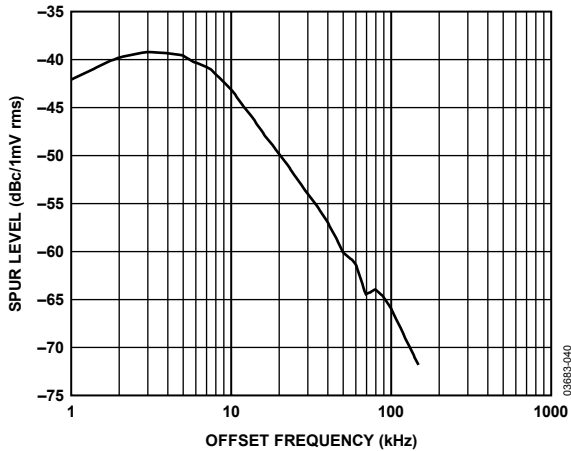
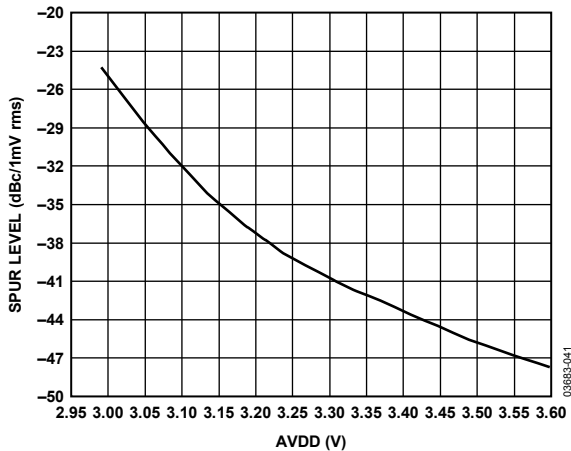

Figure 40. Output Spurious vs. Power Supply Ripple (AIN = 199 MHz)
Figure 41. Output Spurious vs. Power Supply Ripple (AIN = 199 MHz)
The AD6650 is susceptible to low frequency power supply interference as shown in Figure 40. This low frequency energy is translated into spurious tones in the output signal. Analog power supply ripple couples into the LO through the VCO. This can be observed from the ripple frequency vs. sideband spur level plot (see Figure 40). Note that this plot has the spur level referenced to 1 mV rms supply ripple and is referred to the LO. Thus, this plot shows a transfer function rather than an absolute value. The spurious level can be extrapolated to any supply ripple level from this data using Equation 22.
*Spur\_Lev1mV* is the 1 mV referred level from Figure 40 and Figure 41.
An additional parameter that strongly impacts the PSRR is the sensitivity to the AVDD voltage level. A plot of spur level versus AVDD is shown below in Figure 41. Note that this plot also has the spur level referenced to 1mV rms supply ripple and is referred to the LO. Thus, this plot shows a transfer function rather than an absolute value. The spurious level can be extrapolated to any supply ripple level from this plot using Equation 21.